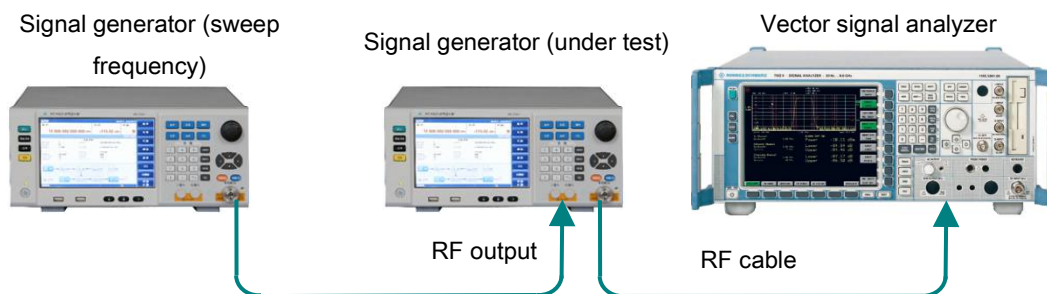

Fig. 8.9 Test on external modulation frequency response
1) Connect equipment as shown in Figure 8.9, start up the instrument, and warm it up for at least 30 min.